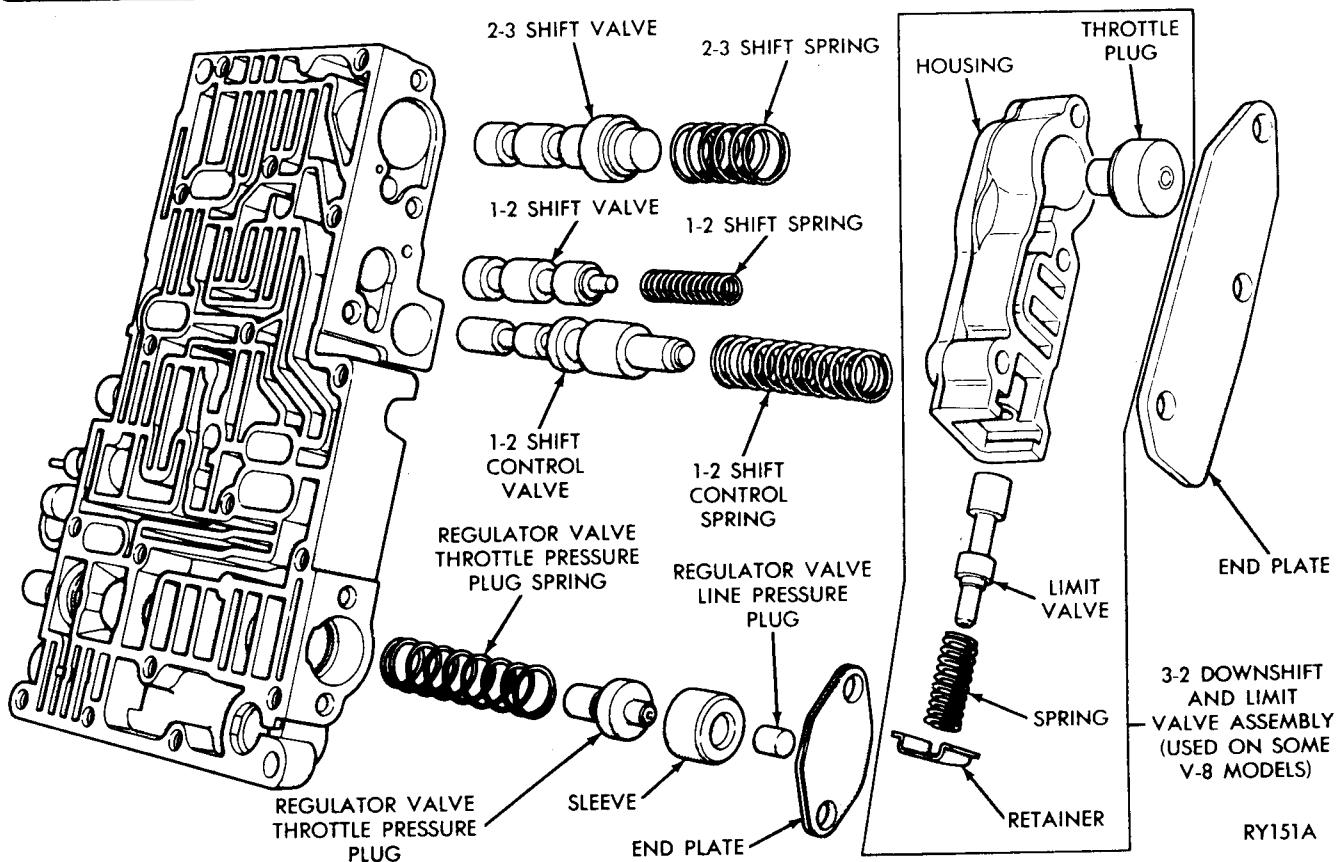

Fig. 7—Shift Valves and Pressure Regulator Valve Plugs
(1) Remove the line pressure regulator valve end plate (Fig. 7) and slide out the regulator valve sleeve, line pressure plug, throttle pressure plug, and spring.
(2) Remove the end plate and limit valve housing assembly.
(3) Remove throttle plug from housing.
Sensing Plugs (Fig. 7)